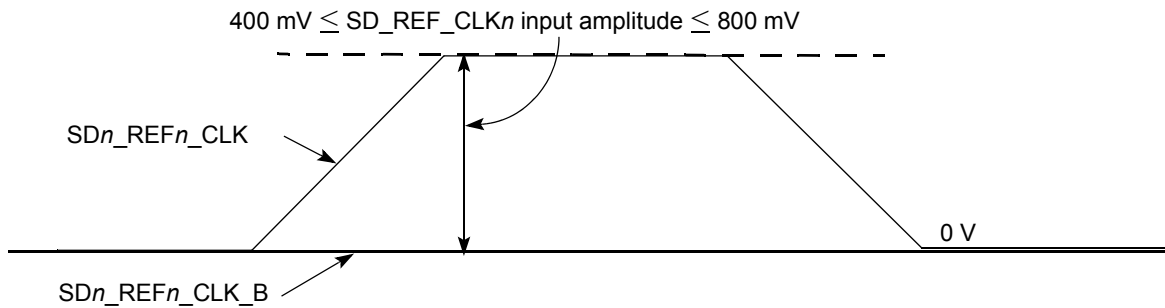

Figure 34. Single-ended reference clock input DC requirements
- The DEVCLK1_P/DEVCLK2_P/SGMII_REFCLK_P input average voltage must be between 200 and 400 mV. Figure 34 shows the SerDes reference clock input requirement for single-ended signaling mode.